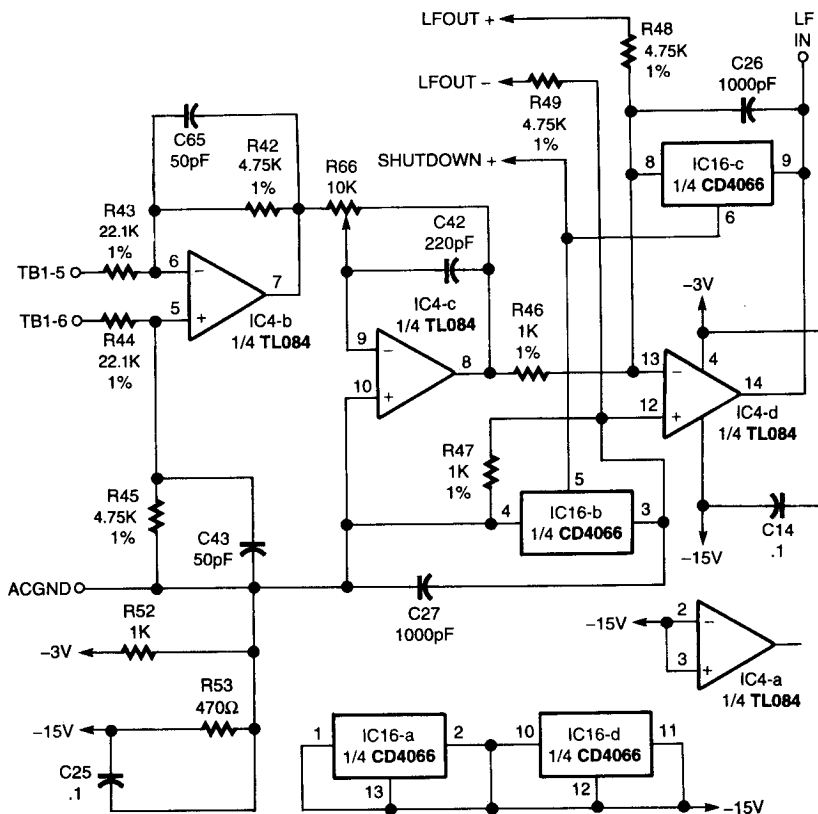

Fig. 7. The preamplifier conditions the input signal for pulse-width modulation.
**Preamplifier.** The preamplifier, shown in Fig. 7, is used to remove noise and condition the input signal for the drive circuit. It is also a part of the control loop for the output-drive circuit, and will be discussed later in this article.